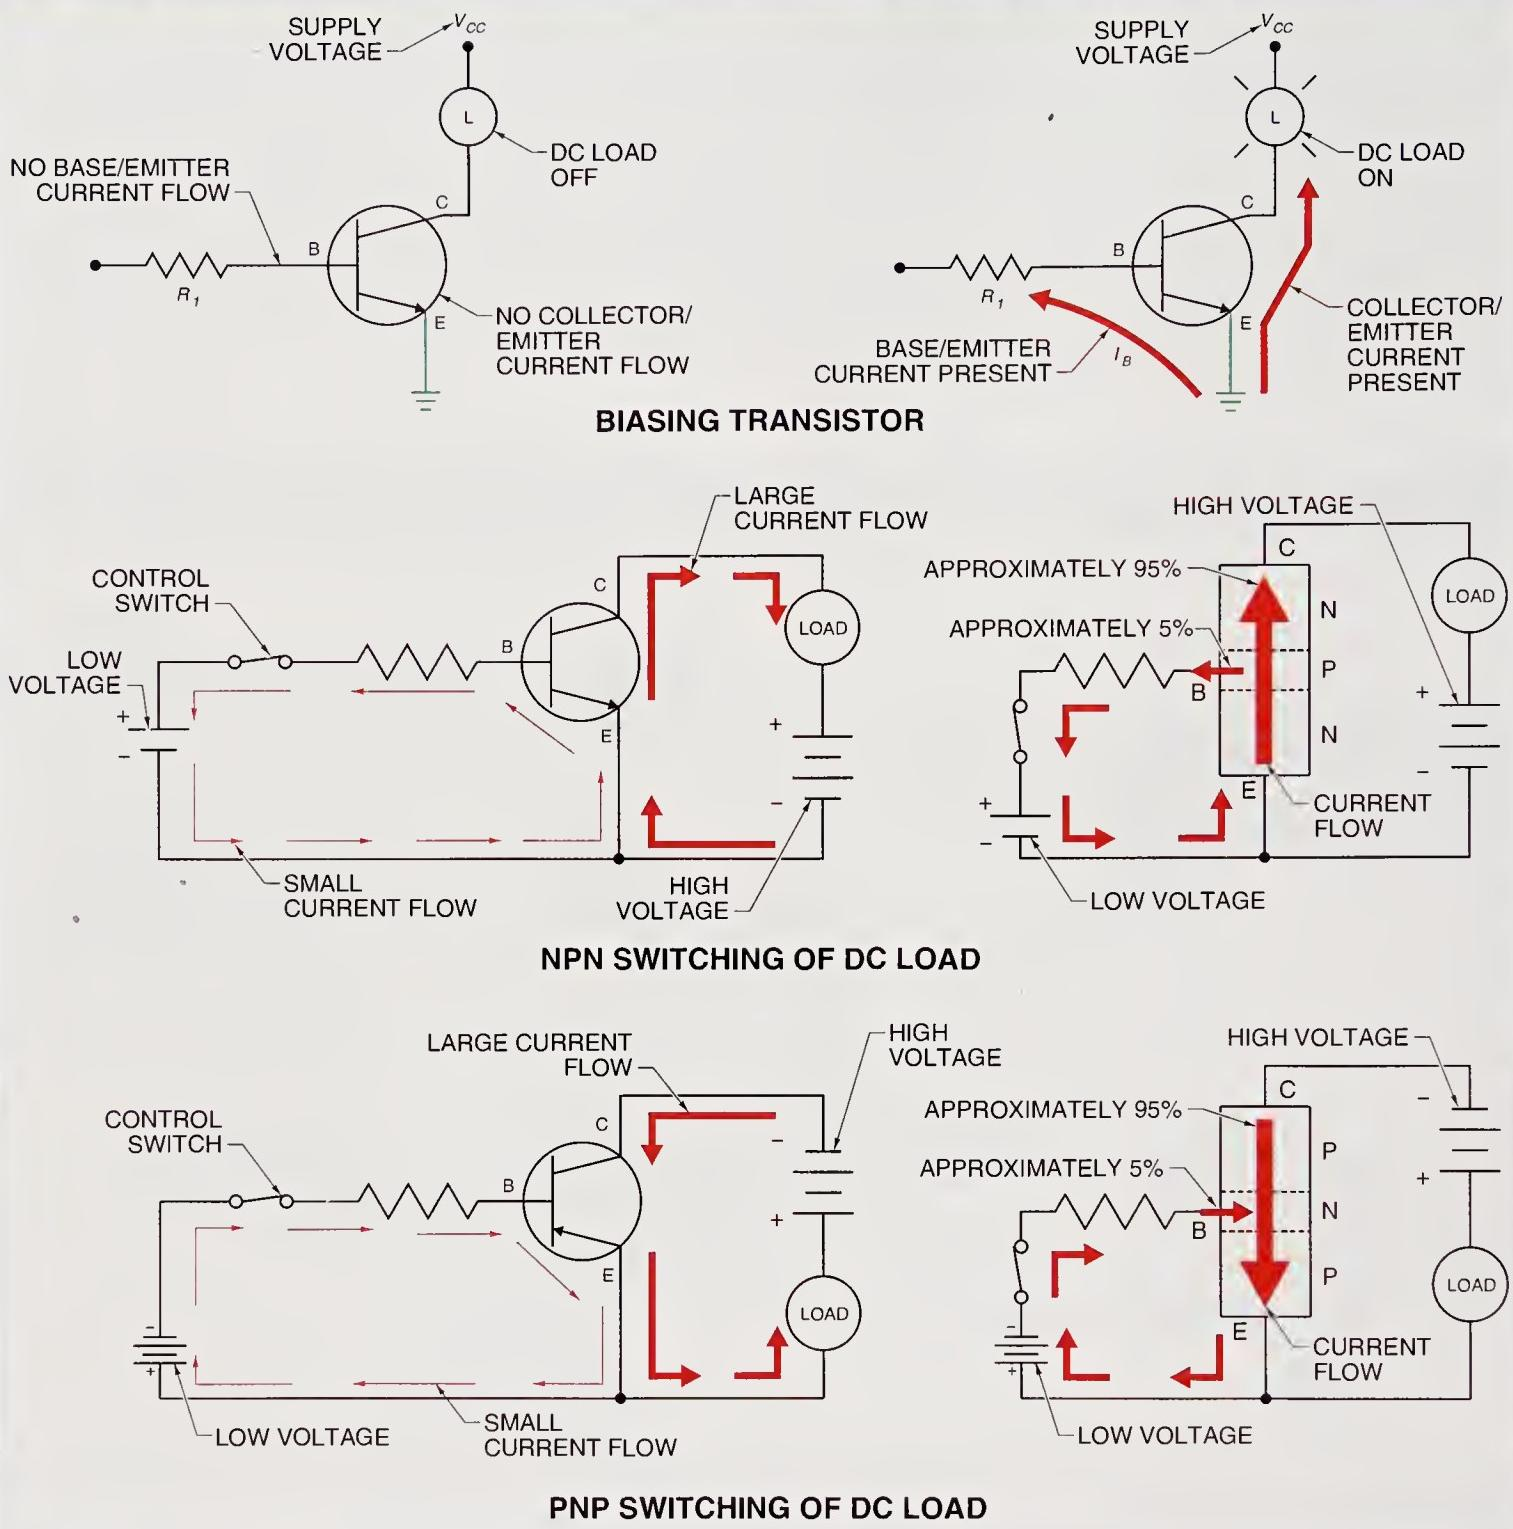

Figure 5-29. Transistors used as switches have a very high resistance when open and a very low resistance when closed.
Transistors are operated as switches. For example, transistors are used to turn DC loads ON or OFF. See **Figure 5-29**. During transistor operation the resistance between the collector (C) and emitter (E) is determined by the current flow between the base (B) and emitter (E). When the collector-to-emitter resistance is high, similar to an open switch, no current flows between C and E. The DC load is not ON because there is no current flow.